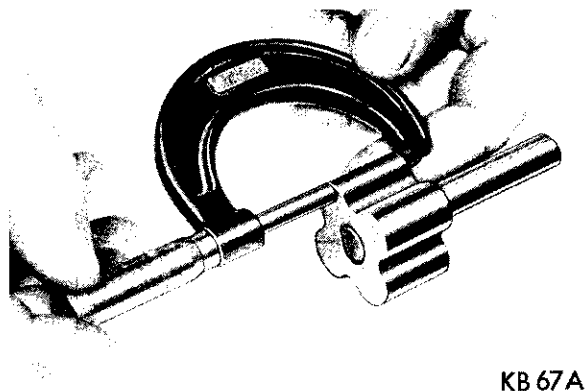

Fig. 54—Measuring Inner Rotor Thickness
(4) If inner rotor length measures less than .942 inch (Fig. 54), a new inner rotor should be installed.